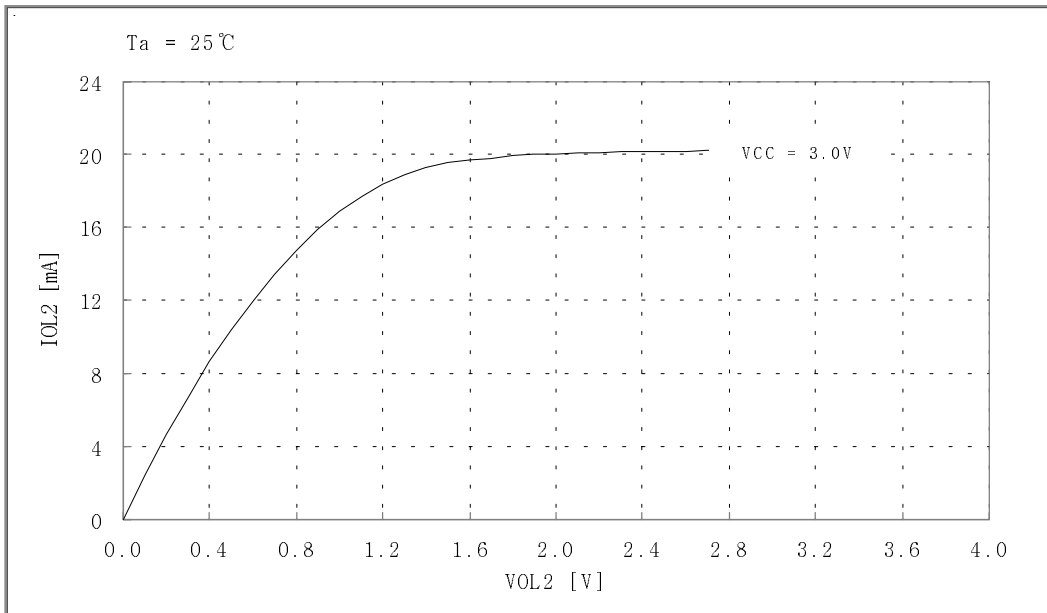

Fig 1-5. I_{OL2} vs. V_{OL2} Graph. (D, R Port)
*1 Refer to < Fig.1-5 I_{OL2} vs. V_{OL2} Graph >